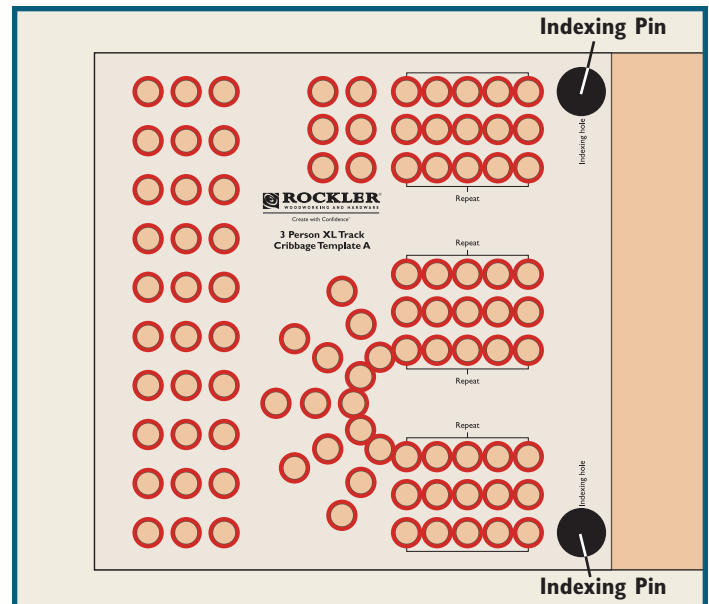

Fig. 2
3. Press the two included Indexing Pins in the holes you just drilled to hold the Square Template while you drill the holes outlined in red in **Fig. 2**.